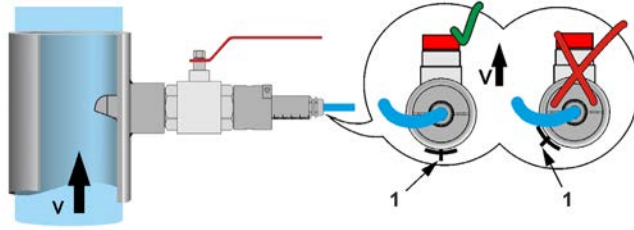

Fig. 10-48 Aligning the pipe sensor against the direction of flow
7. Align the pipe sensor with the centre axis (Fig. 10-48 Pos. 1) of the scale (Fig. 10-40 Pos. 9) against the direction of flow as shown in the figure below: Centre axis of the scale vertically against the direction of flow.